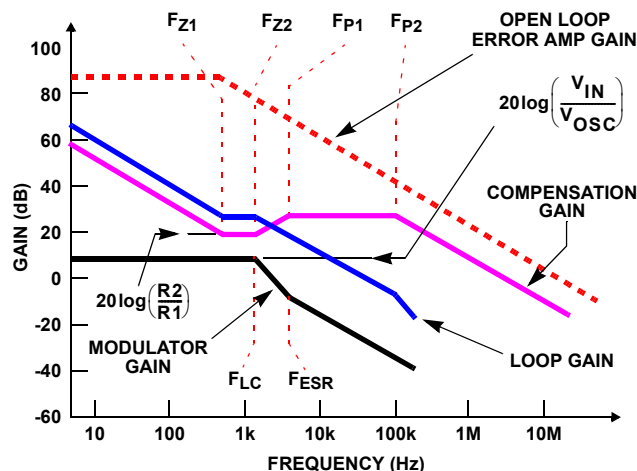

FIGURE 8. ASYMPTOTIC BODE PLOT OF CONVERTER GAIN
Figure 8 shows an asymptotic plot of the DC/DC converter's gain vs frequency. The actual Modulator Gain has a high gain peak due to the high Q factor of the output filter and is not shown in Figure 8. Using the above guidelines should give a Compensation Gain similar to the curve plotted. The open loop error amplifier gain bounds the compensation gain. Check the compensation gain at F_{P2} with the capabilities of the error amplifier. The Closed Loop Gain is constructed on the graph of Figure 8 by adding the Modulator Gain (in dB) to the Compensation Gain (in dB). This is equivalent to multiplying the modulator transfer function to the compensation transfer function and plotting the gain. The compensation gain uses external impedance networks Z_{FB} and Z_{IN} to provide a stable, high bandwidth (BW) overall loop. A stable control loop has a gain crossing with -20dB/decade slope and a phase margin greater than 45°. Include worst-case component variations when determining phase margin.